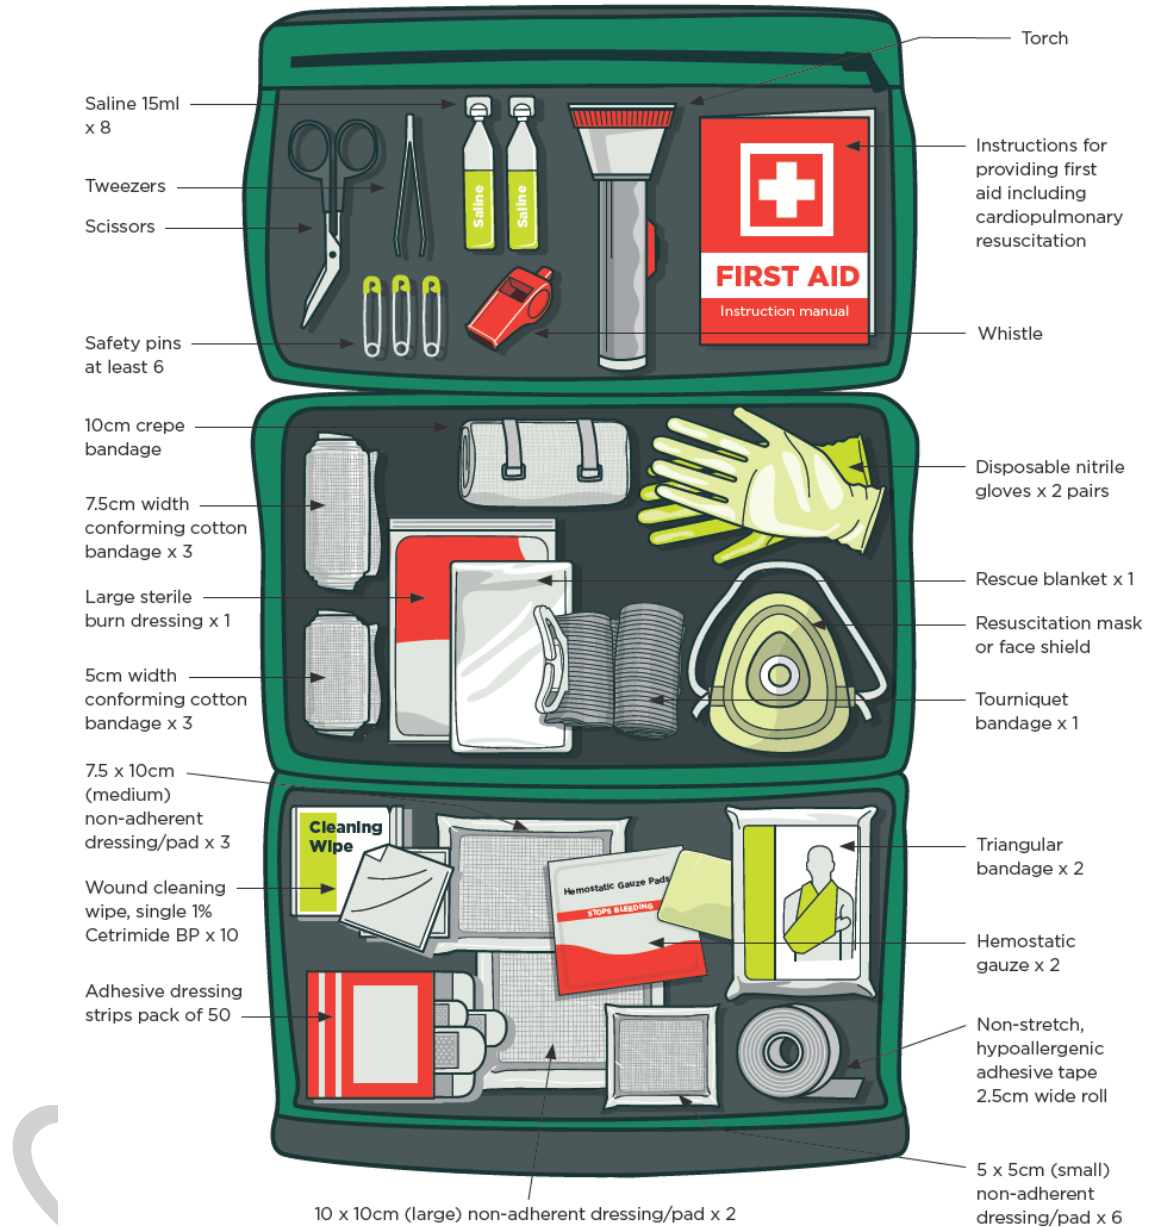

Figure 12: Example of a first aid kit for remote worksites
8.4.5 Figure 12 shows examples of things to consider for remote worksites.